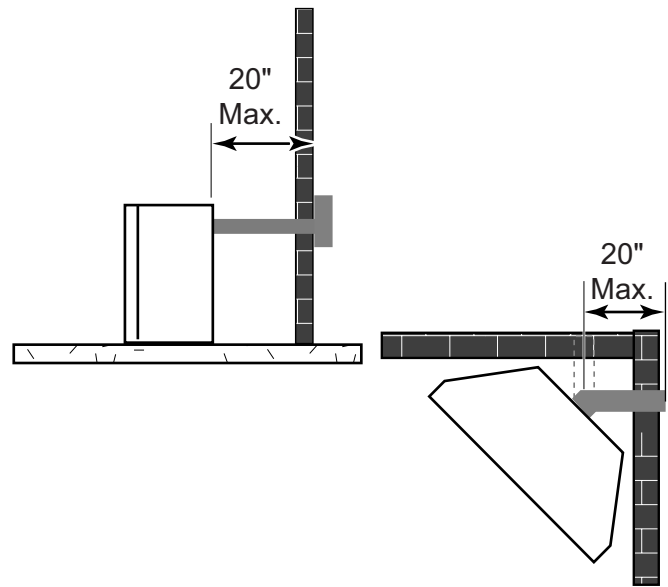

Figure 22 - Maximum Horizontal Run with No Rise
- If a 90° elbow is fitted directly on top of the fireplace flange, the maximum horizontal vent run before the termination or a vertical rise is 20" (508mm). *See Figure 22.*